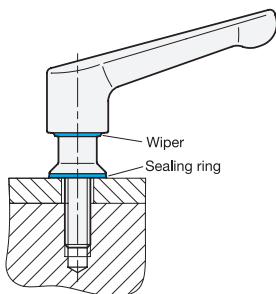

Fig. 2
- Defective sealing rings must be replaced (Fig. 2). Use only the special sealing rings in the appropriate size (GN 7600).
The wiper (Fig. 2) cannot be replaced. The hand lever must therefore be replaced if the wiper is damaged, cracked or embrittled.